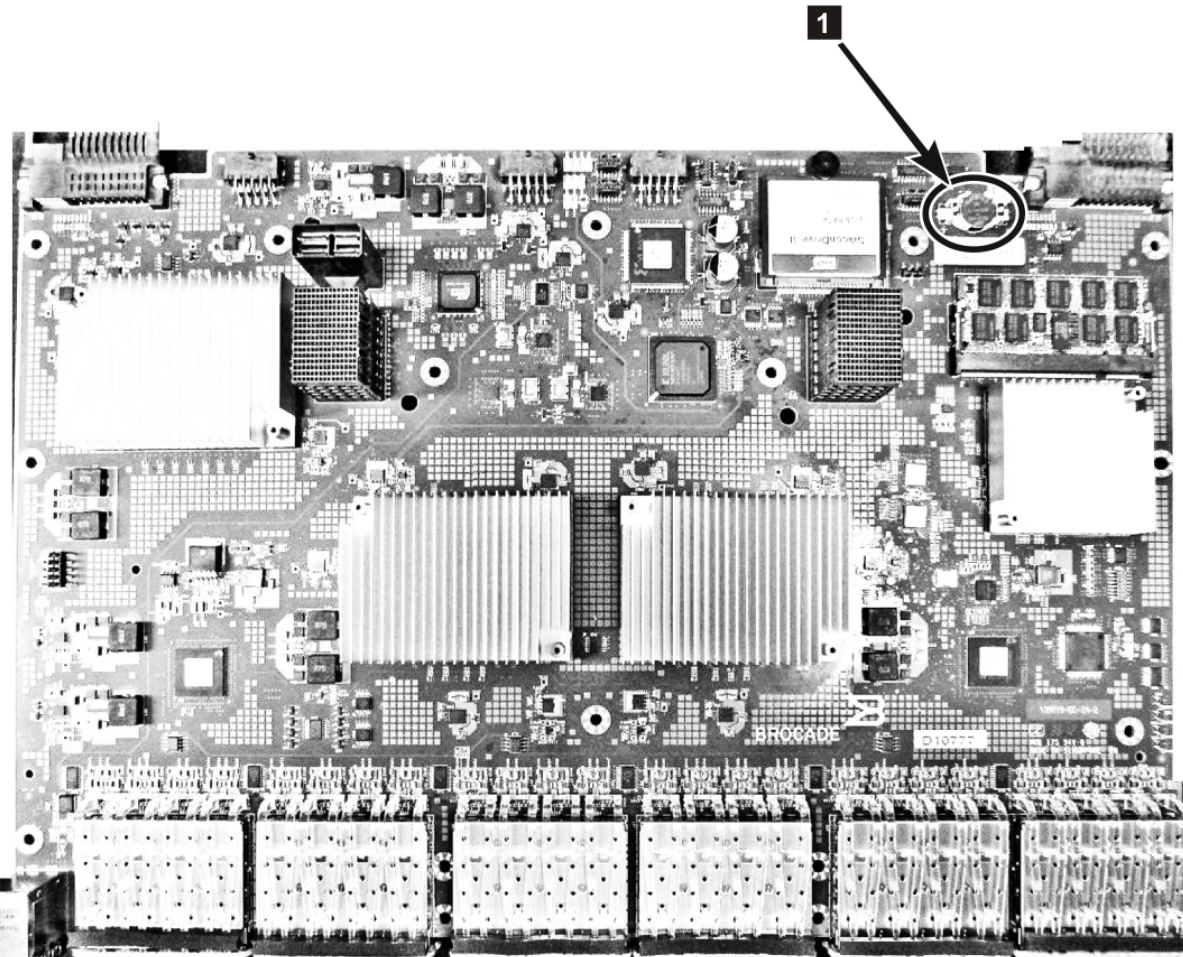

Figure 82. Location of battery holder
5. On the main circuit board, go to location **1** shown in Figure 82 on page 189 and remove the BR1225 battery from the holder.